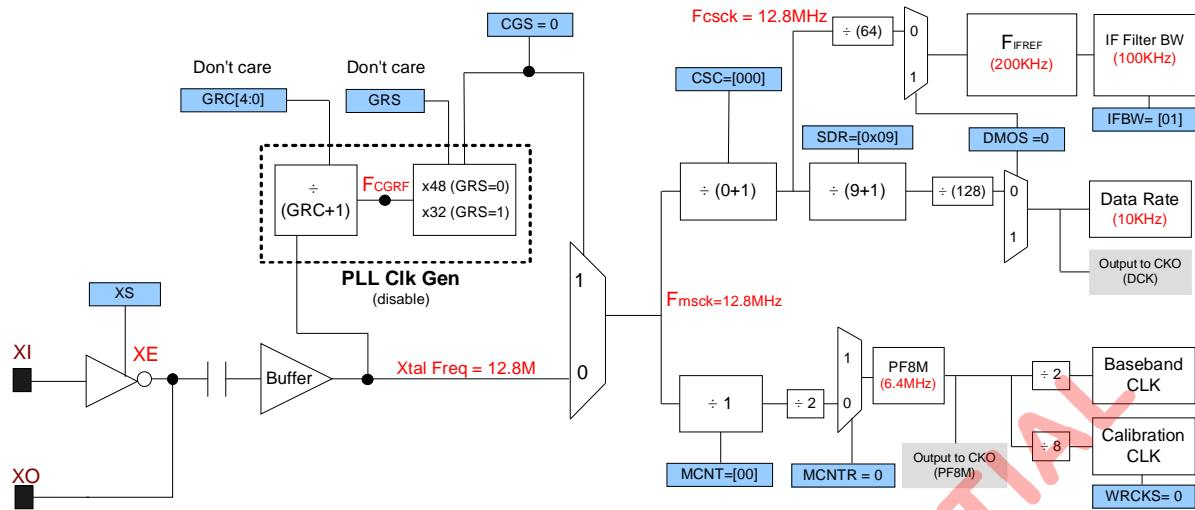

Figure 12.3 Configurations of 10Kbps when IFBW = 100KHz
5. If choosing IFBW = 100KHz, figure 12.3 illustrates the different results of CSC and  $F_{CSCK}$ .